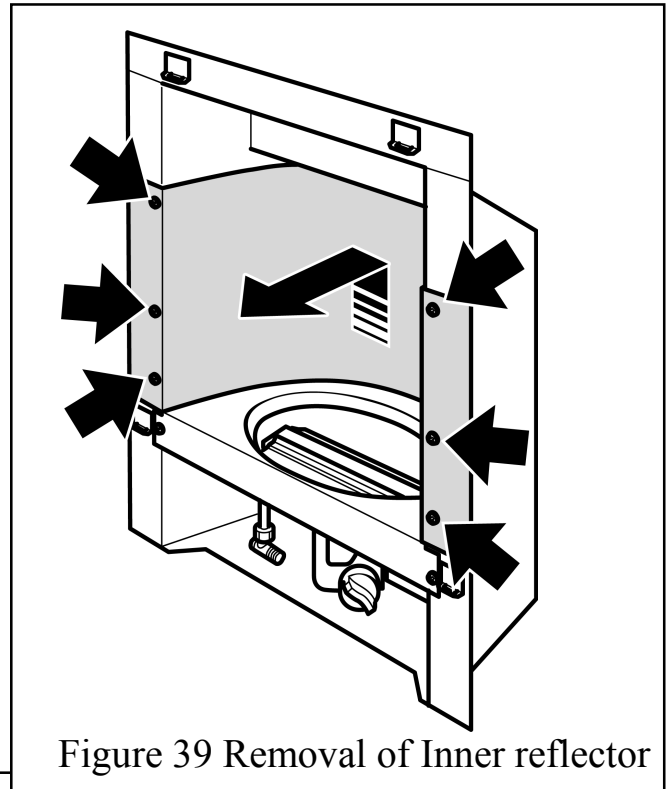

Figure 39 Removal of Inner reflector
4. Remove the six screws from the side of the inner reflector (See figure 39).
5. Carefully lift the inner reflector and pull forward to remove. **Be careful not to scratch the top surface of the burner cover** (See figure 39). Place the inner reflector in a safe place away from the work area.